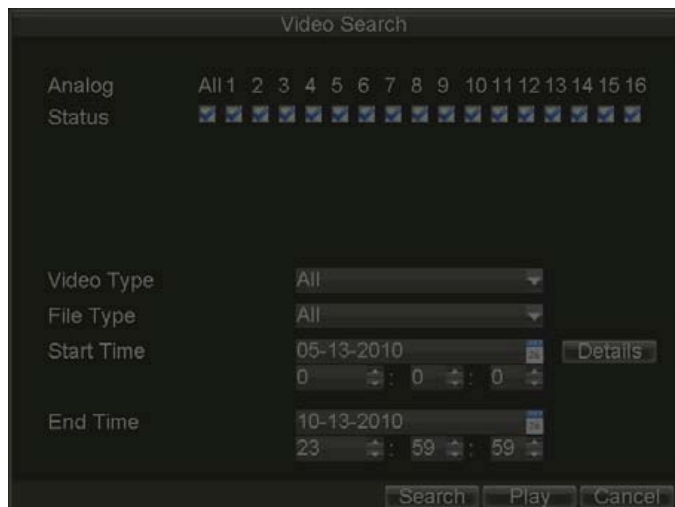

Figure 6.6. Video Search Result List
- 1) Click Menu > Video Search to enter the Video Search dialog box, shown in Figure 6.6.